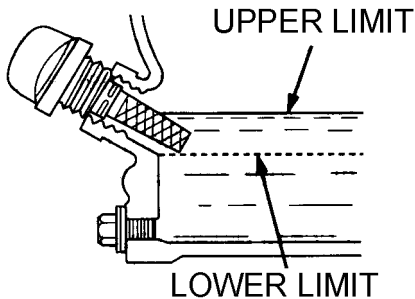

Figure 16. Engine Oil Dipstick (Oil Level)
4. If the oil level is low (Figure 16), fill to the edge of the oil filler hole with the recommended oil type as listed in Table 4. Reference Table 3 for maximum engine oil capacity.